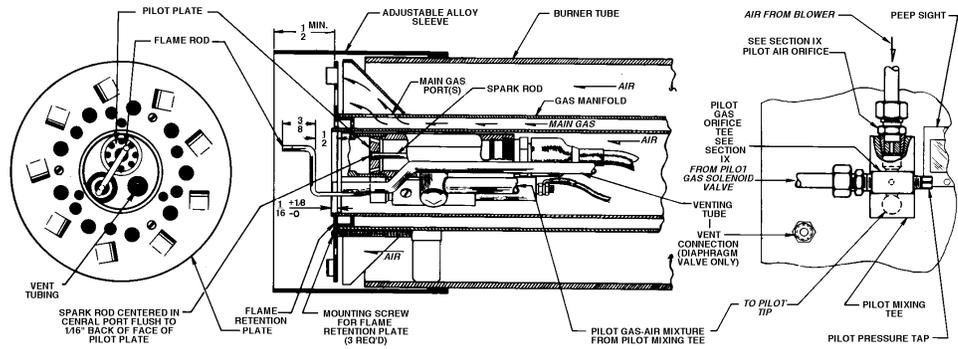

Figure 14: Drawer Assembly
- Service of the pilot will generally consist only of inspection and cleaning. Check that the pilot tip ports, air tube and mixing tee are free of lint and dirt and that the pilot tip is free of corrosion. Make sure that the air tube is re-inserted into the blower housing pilot air tube hole. The spark insulator and cable must be clean, dry and free from cracks and abrasions. Make spark gap settings per Figure 14.
is made of heat resistant alloy, it may eventually deteriorate at the point of flame contact and should be replaced if it is seriously corroded. See Figure 14 for the proper alignment of the flamerod. **DO NOT BEND FLAMEROD TO REDUCE THE DISTANCE FROM THE PILOT TIP.**